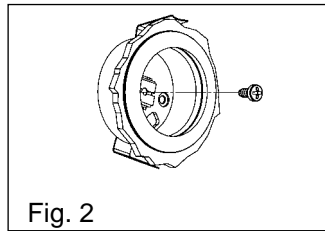

Fig. 2
- Press mounting clips at center and secure with swivel spacer and screw. (Fig. 2)